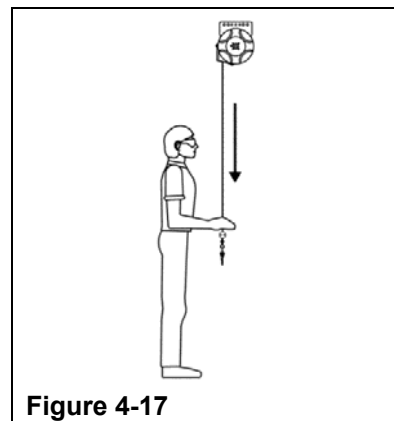

Figure 4-17
- Step 2. Pull down sharply on the cable or chain. (See Figure 4-17) If the load still does not lower, proceed to step 3.
- Step 5. Pull down sharply on the cable or chain. (See Figure 4-17) If the load still does not lower, proceed to step 3.